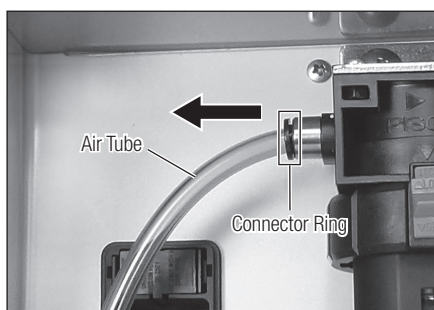

Fig. 31
- 2) Pull out the air tube while pushing the connector ring on the air filter (Fig. 31).